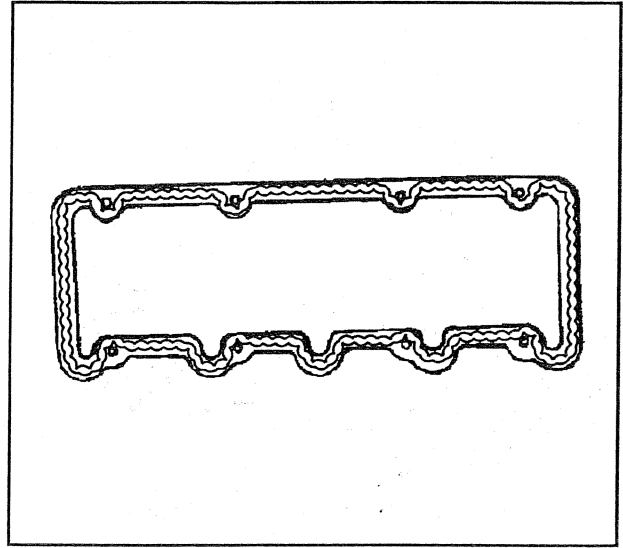

Figure 12—Applying Sealant to the Rocker Arm Cover
→← Install or Connect (Figure 12)
- Apply a 5-mm (3/16-inch) bead of RTV sealant (GM P/N 12345739) to the rocker arm covers, inboard of the bolt holes. Refer to figure 12. The sealer must be wet to the touch when the bolts are tightened.